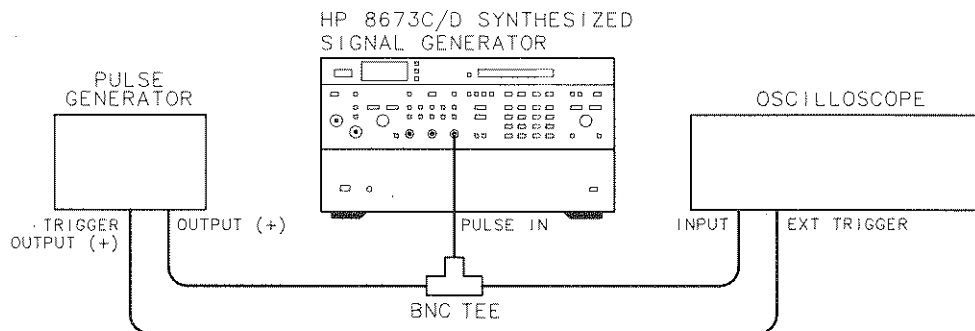

Figure 3-10. Pulse Modulation Functional Check Setup
45. Connect the pulse generator and oscilloscope to the Signal Generator as shown in Figure 3-10.